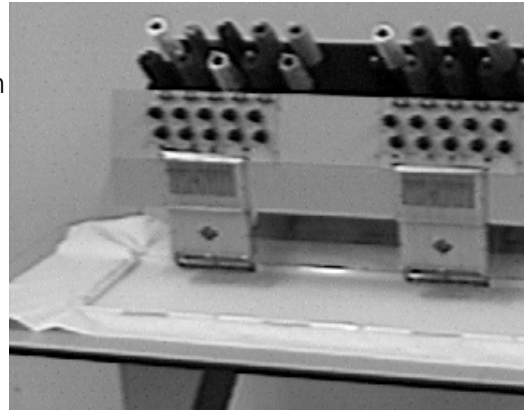

Figure 3-6
Designs that are too large to fit into a standard hoop can be sewn using the full sash frame. Figure 3-6 shows a portion of the maximum sewing area. With the full sash frame you can stretch bulk material across the width of the frame.
4. Attach the front clip support to the front of the sash frame. It will attach like the rear clip support. Refer to Figure 3-6.